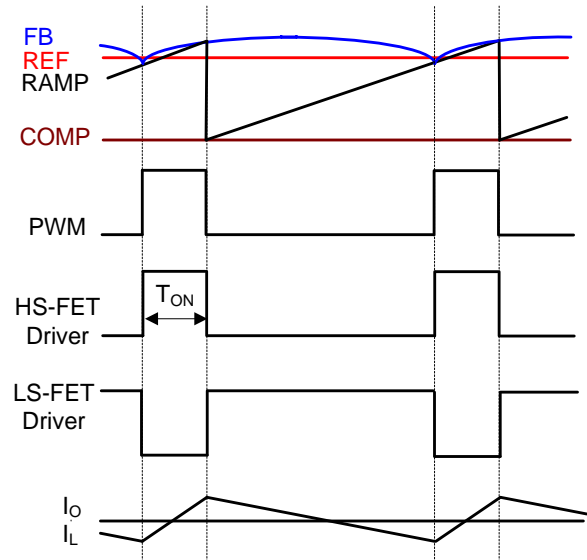

**Figure 2: COT Control**
The MPQ8623 employs constant-on-time (COT) control to achieve fast load transient response. Figure 2 shows the details of the control stage of the MPQ8623.
The MPQ8623 provides accurate EN thresholds, so a resistor divider (R3/R4 in Figure 2) from VIN to AGND can be used to program the input voltage at which the MPQ8623 is enabled. This is highly recommended for applications where there is no dedicated EN control logic signal to avoid possible UVLO bouncing during power-up and power-down. The resistor divider values can be determined with Equation (7):